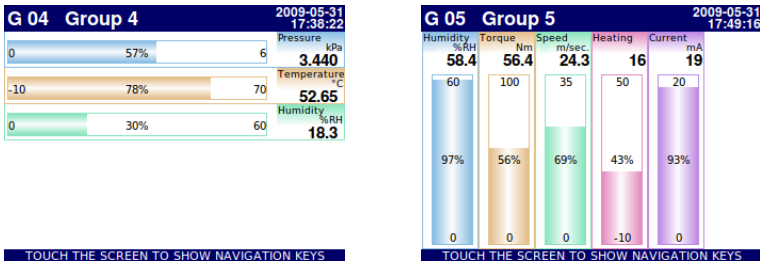

Fig. 6.7. Examples of **Horizontal** (for 3 channels) and **Vertical Bars** (for 5 channels)
- as horizontal bars **Fig. 6.7**
- as vertical bars **Fig. 6.7**